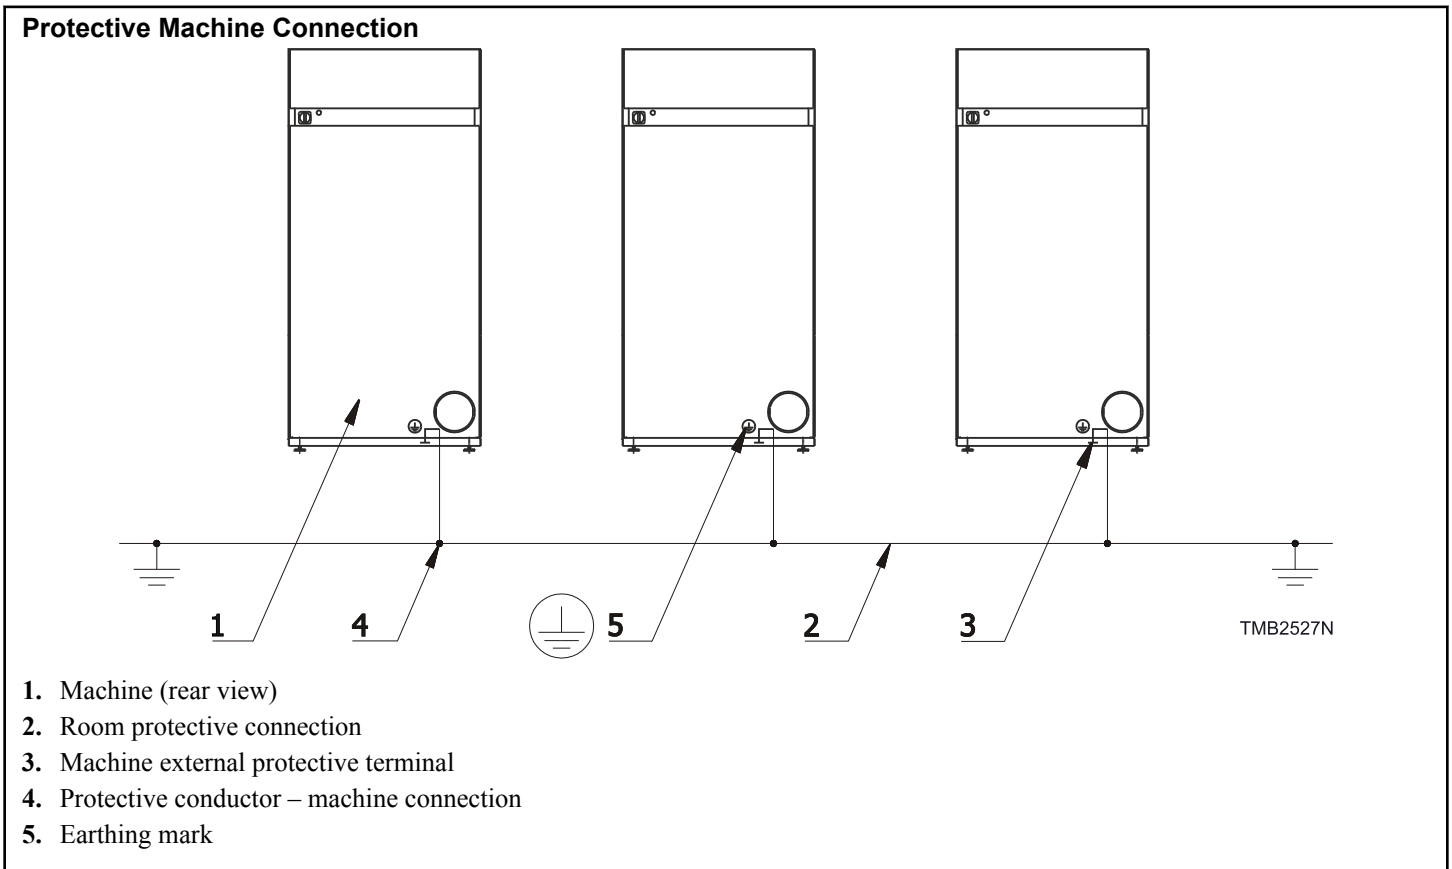

Figure 14
For safety reasons it is necessary to connect the machine to the laundry protection system. The external protective terminal of the machine (M6) located on the rear part of the machine bottom serves for this purpose and it is marked with an earthing mark. Refer to *Figure 14* (4). The protection conductor enabling this connection is not part of the delivery with the machine. The protection conductor cross section must at least correspond to the figures described in Chapter *Electrical Specifications*. However, for protection purposes, with a supply cable cross section below 0.004 in² [2.5 mm²] we recommend to select a larger conductor cross-section at least 0.006 in² [4 mm²]. The protective connection and earthing of machines prevents unfavourable effects of static electricity which may adversely affect the machine operation.